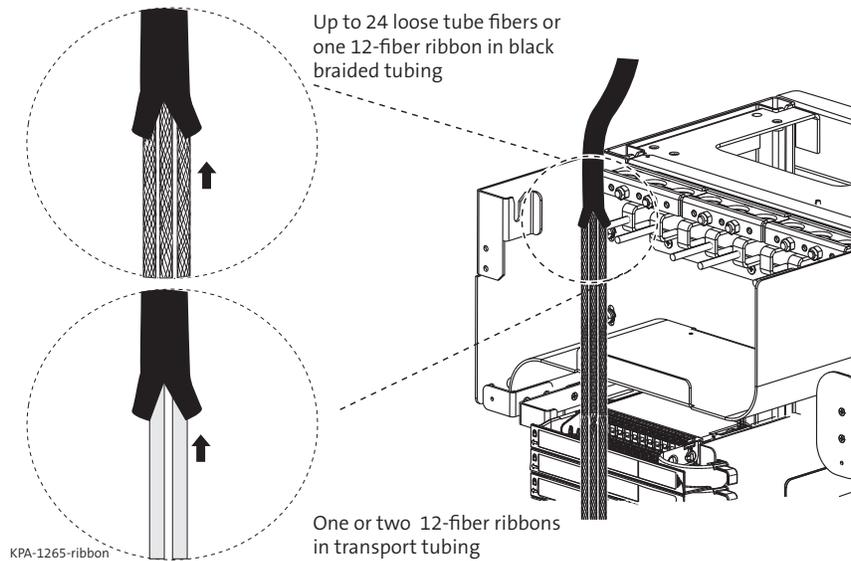

Figure 19
Step 2: Insert tubing under slit in sheath (Figure 19).